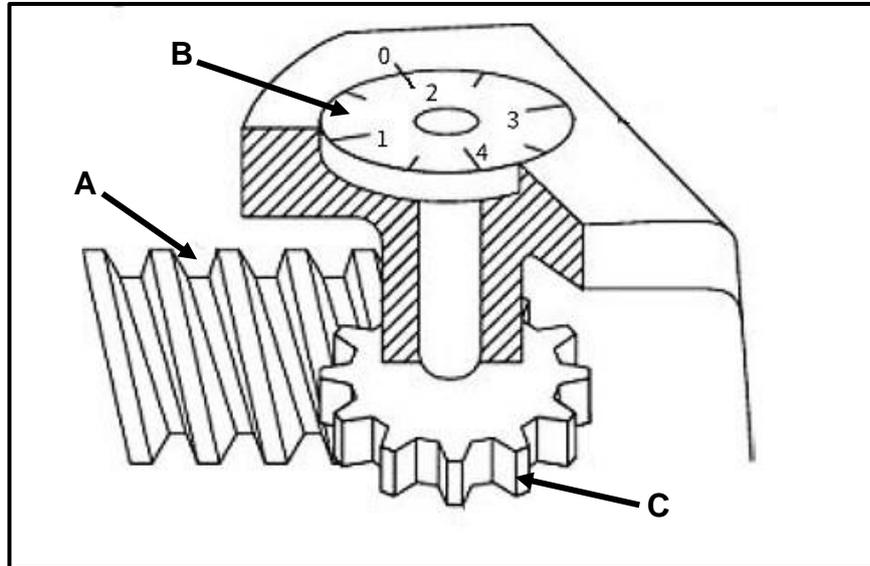

FIGURE 5.1
5.1 FIGURE 5.1 below shows a screw-cutting dial found on a lathe machine. Label parts **A–C**.